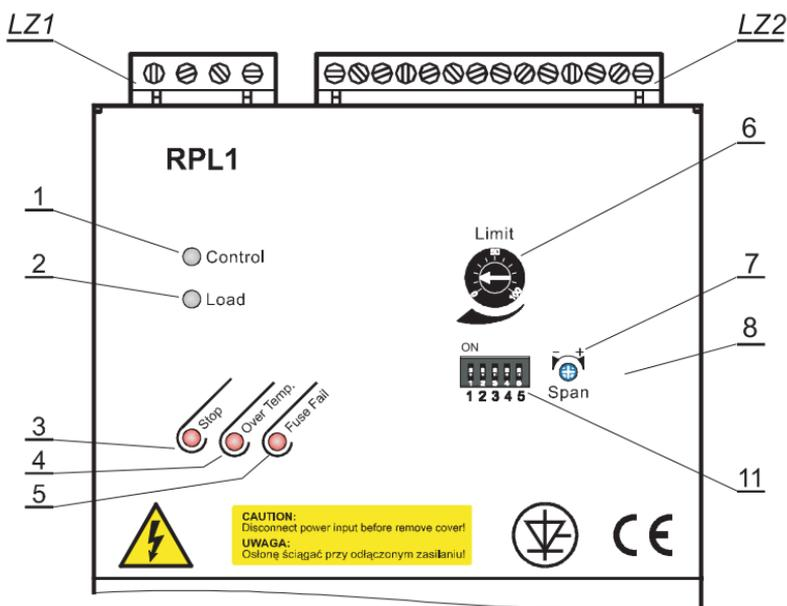

Fig. 4.3 View of the frontal plate
Servicing elements are disposed on the power controller frontal plate (Fig. 4.3.)
- a) to LZ1 and LZ2 terminal strips (fig.4.3), - leads with cross-section from 0.35 up to 2.5 mm²